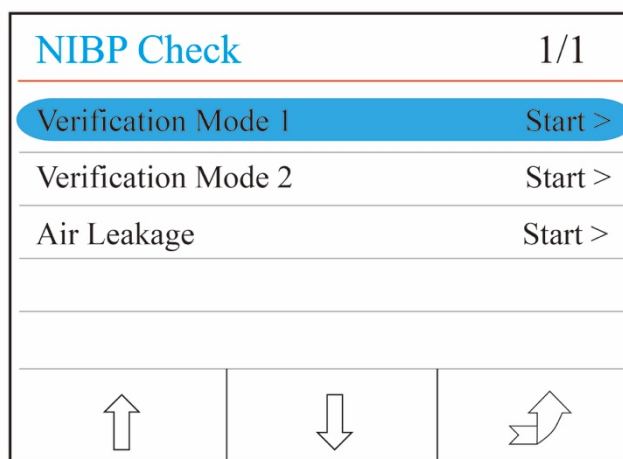

Figure 4.13 NIBP verification setup screen
- ✧ **"NIBP Check "**: press it to enter into NIBP verification setup screen, as shown in figure 4.13.